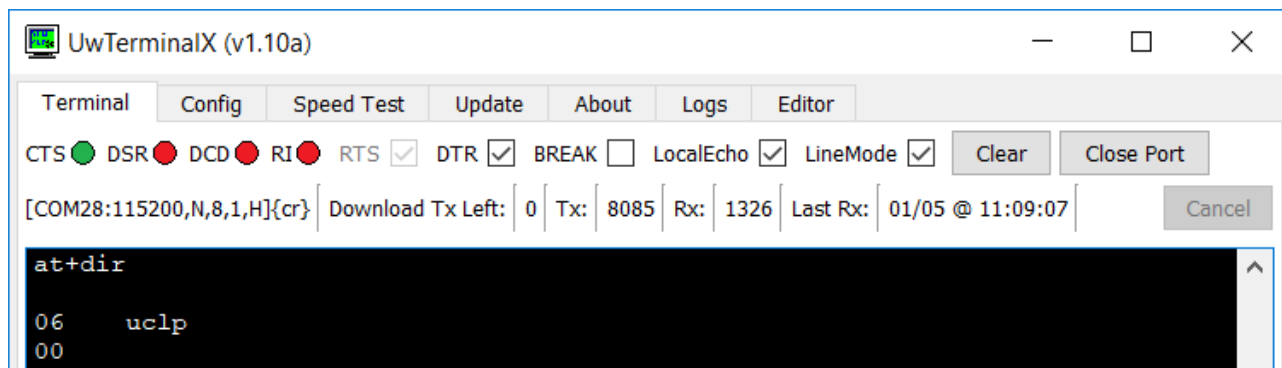

Figure 5: Directory showing “uc1p” app is loaded
3. Confirm that the **uc1p** application is loaded by using the command **at+dir** (Figure 5).